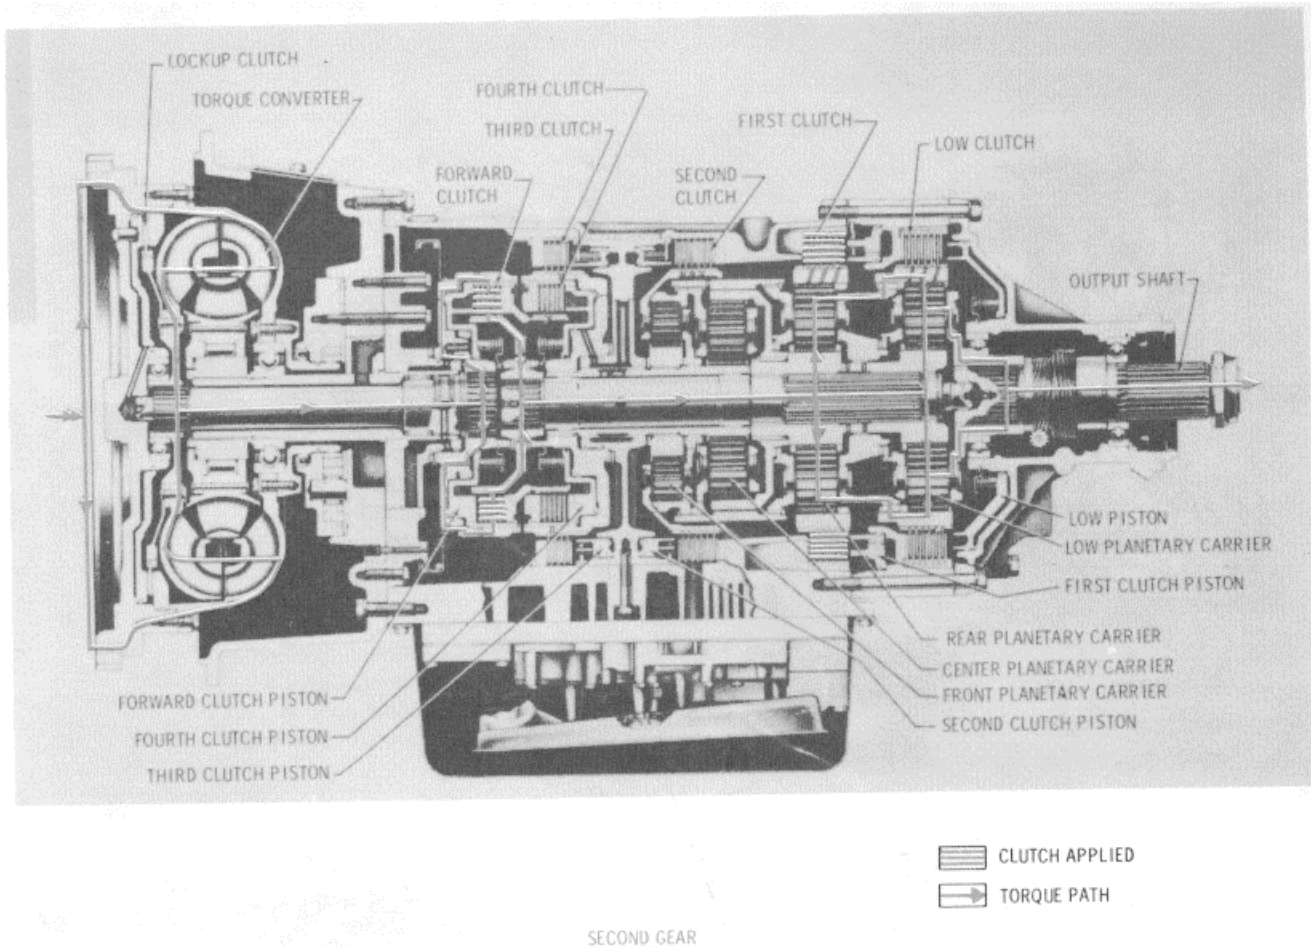

Fig. 2-10. Second-gear torque path
e. Second-Gear Operation (fig. 2-10) Engine torque is transmitted through the torque converter as described in a, above. The forward and first clutches are applied. The first clutch application anchors the rear planetary ring gear against rotation. The forward clutch application locks the turbine shaft and transmission main shaft together so that they rotate as a unit. The rear sun gear and low sun gear are splined to the main shaft and rotate with it and, in turn, they rotate the